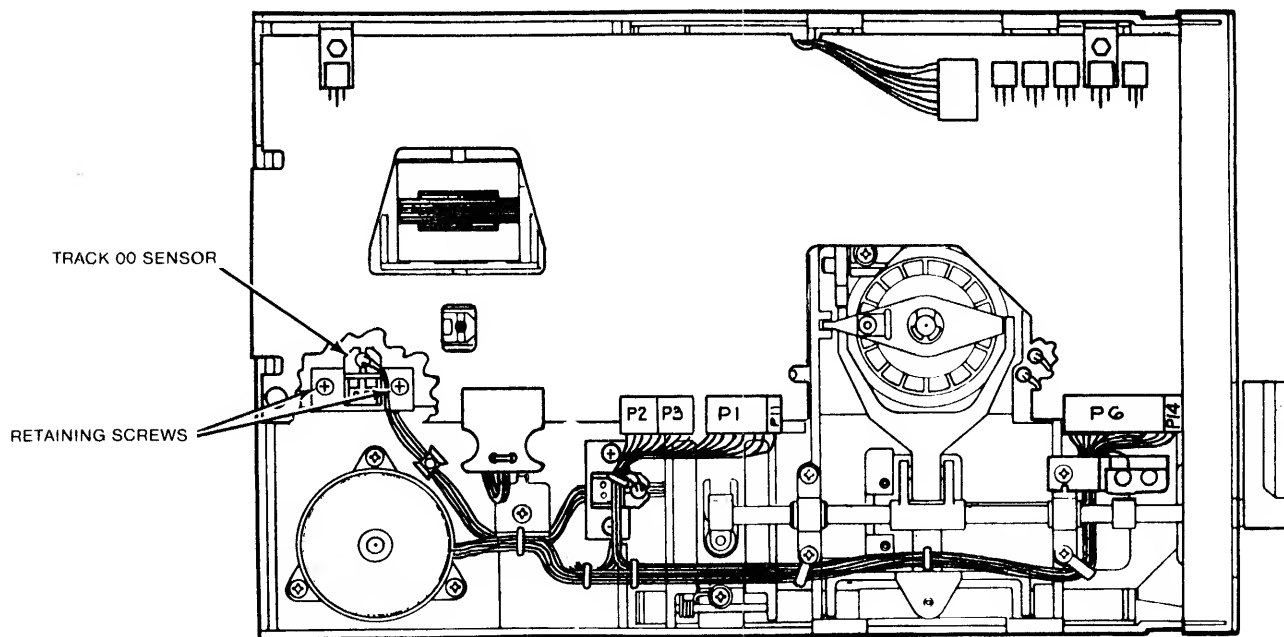

Figure 4-8. Track 00 Sensor Adjustment
11. Seek to track 2, and loosen the two retaining screws that hold the sensor (see figure 4-8).